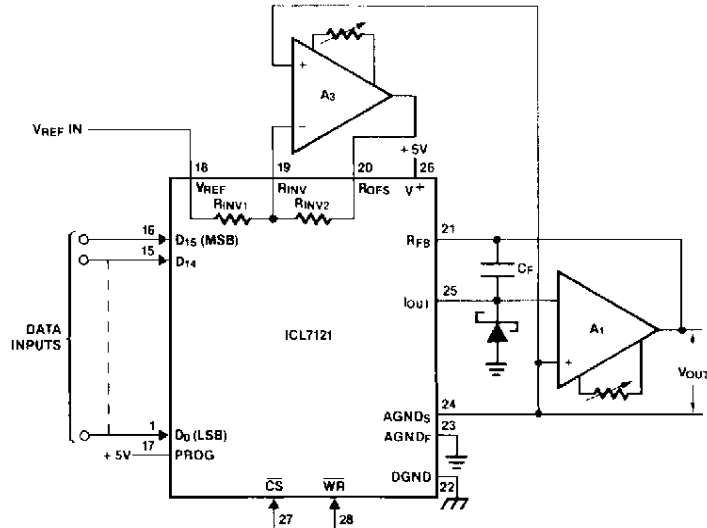

FIGURE 1. BIPOLAR OPERATION, FOUR-QUADRANT
6. Refer to Figure 1. Measured at output amplifier A1 (A1 having zero offset).  $V_{REF} = +5V$ . Adjustable to zero with external potentiometer.
The circuit diagram for the normal configuration of the ICL7121 is shown in Figure 1. The positive and negative reference voltages allow full four-quadrant multiplication. Amplifier  $A_3$ , together with the internal resistors  $R_{INV1}$  and  $R_{INV2}$ , forms a simple voltage inverter circuit to generate  $-V_{REF}$  for the  $R_{OFS}$  offset input pin. This will give the nominal "digital input code/analog output value" relationship of Table 1. Note that the value of  $R_{FB}$  is equal to  $2R$  so full scale range is  $2V_{REF}$ .